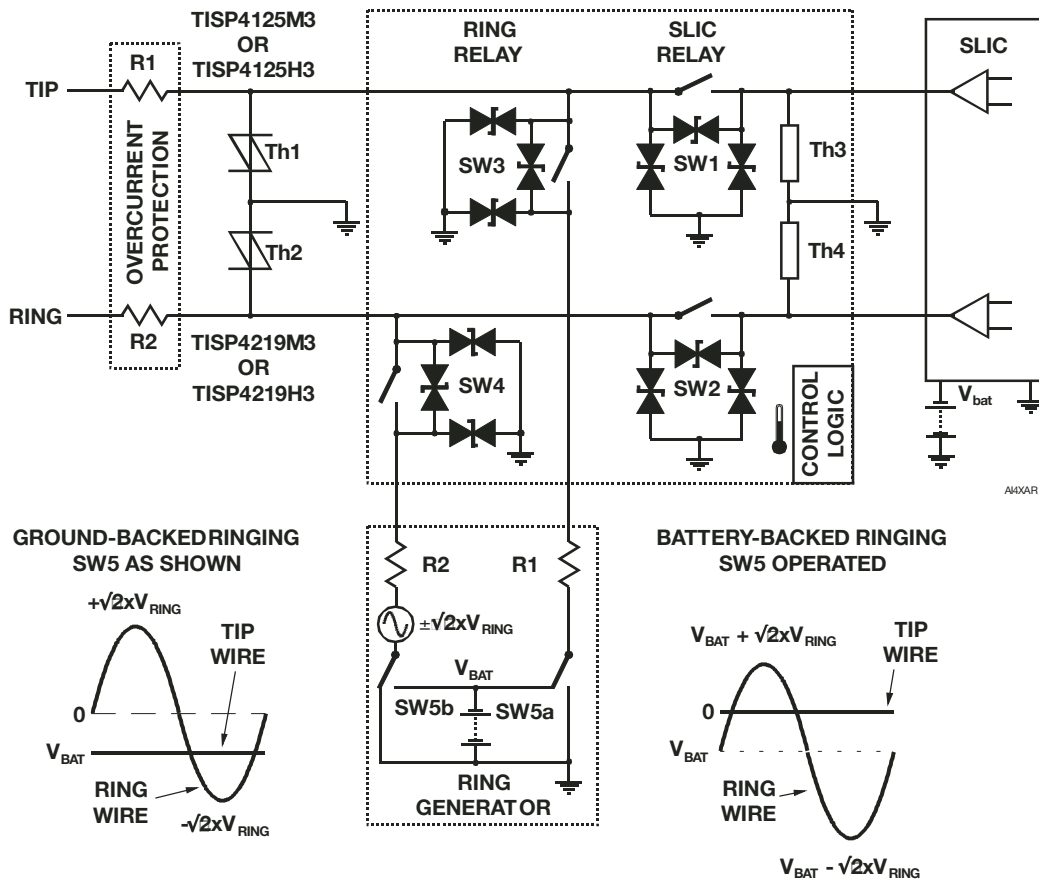

Figure 13. LCAS Shown with Switch Breakdown Limits
Figure 13 shows the LCAS switch voltage ratings as breakdown diodes, which must not be allowed to conduct. Each switch has three diodes; one between poles and the other two from each pole to ground. At 25 °C, switches SW1 through to SW3 have breakdown diode voltages of ±320 V. Switch SW4 has breakdown diode voltage values of ±465 V for the one between poles and ±320 V for the two diodes connected to ground. Note that only protection to ground is required, as in the limit, the inter-switch voltage limitation of ±640 V is the same as the switch to ground limitation of +320 V and -320 V in both polarities.
- ground-backed and battery-backed ringing configurations (see Figure 13).